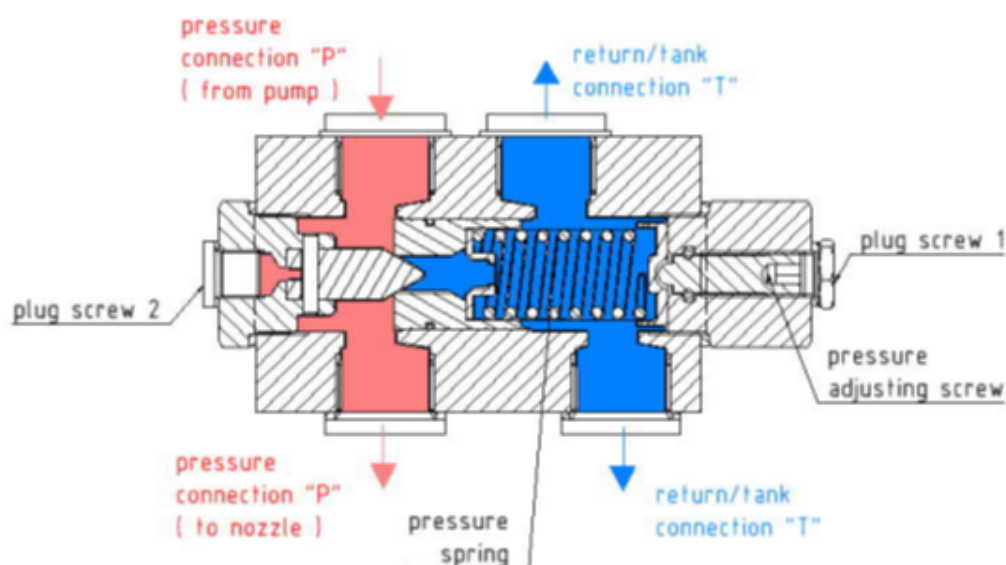

Fig.1 Operating principle
- Should there be no manometer attached, please remove the plug screw 2 and fit one to the manometer connection G1/4" (Fig. 1).
- Overflow valves have been factory-set to the lowest possible pressure level, In order to set the desired operating pressure, first remove the plug screw 1 (see Fig.1) to reveal the adjusting screw beneath.
- Now switch on the unit's pump and turn the adjusting screw to the right to adjust the operating pressure to the desired setting (turn the setting screw to the right – clockwise -> to increase the pressure, turn the setting screw to the left – counterclockwise -> to decrease the pressure. For a reading of the set value, a manometer to be attached to the unit. please remove the plug screw 2 (see Fig.1) and fit one to the manometer connection.